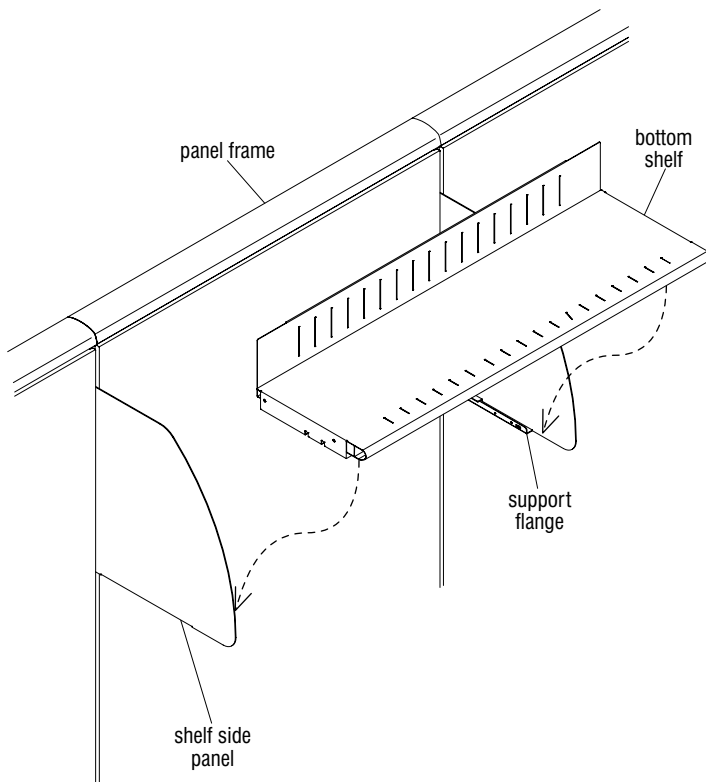

Figure 2
3. Place the side flanges of the bottom shelf over the support flanges on the bottom of the side panel (Figure 2).